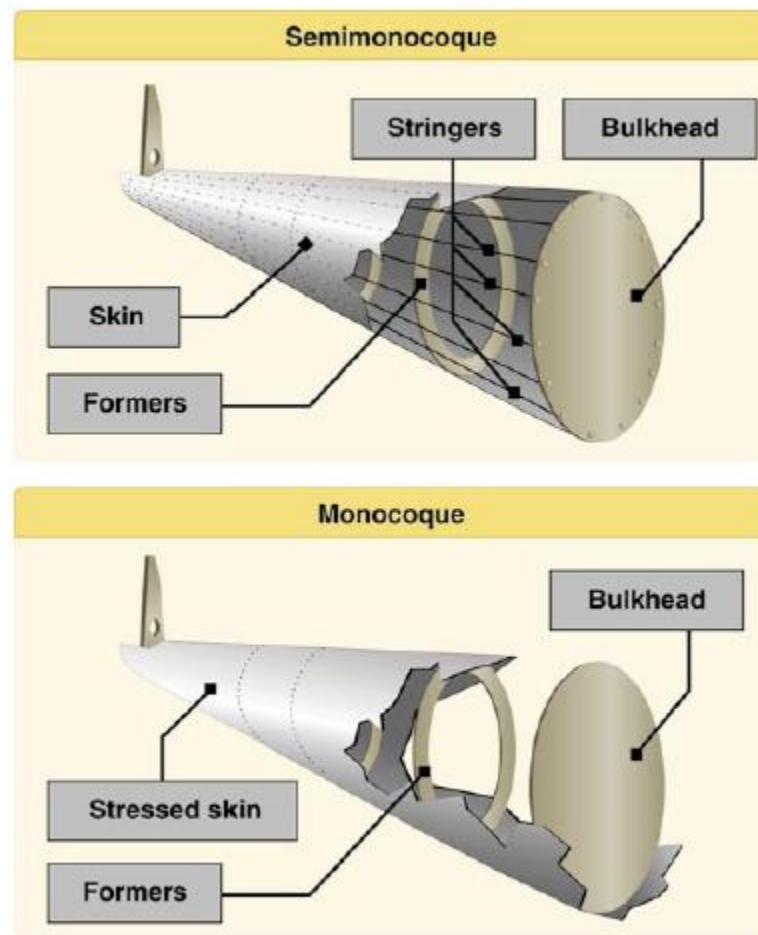

Figure 2-14. Semimonocoque and monocoque fuselage design.
- ➔ Most modern aircraft use a form of this stressed skin structure known as monocoque or semimonocoque construction. *[Figure 2-14]*